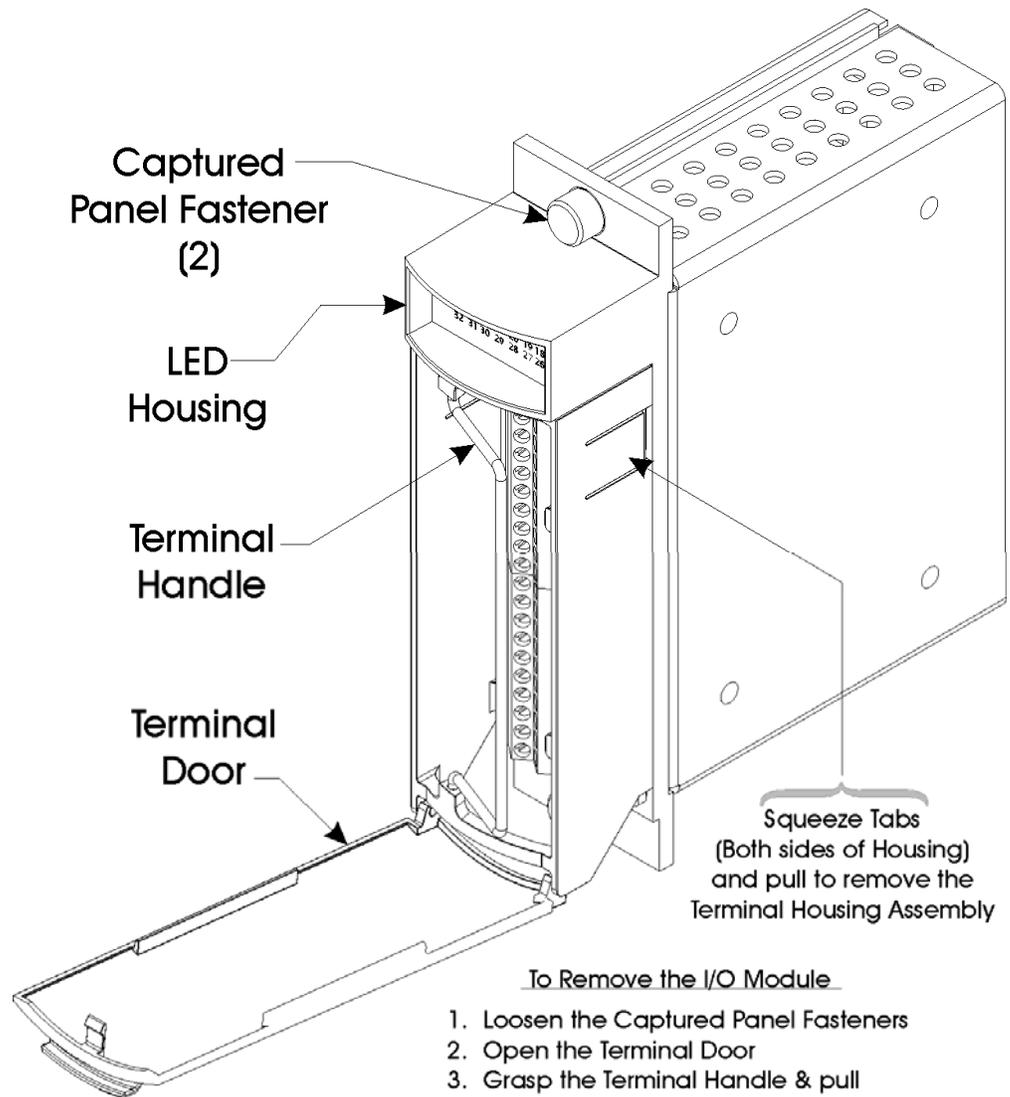

Figure 3-1. Terminal Housing Assembly Removal
2. Turn the terminal block's quarter turn fasteners (counterclockwise) and remove the terminal housing assembly from the I/O module (see *Figure 3-1*).